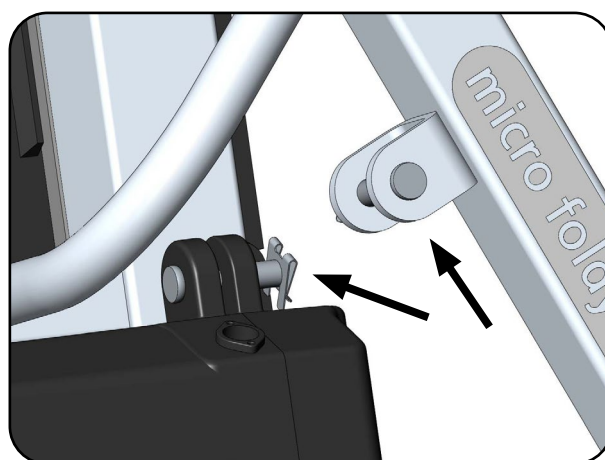

Fig. 6.2.05 – Pin with locking plate
7. Remove the pin with the locking plate from the retaining plate on the lifting arm and from the lift drive (Fig. 6.2.05).